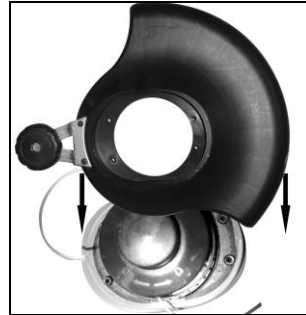

Fig.2B
3. Secure it with 4 screws which is enclosed in the packing(Fig.2B)